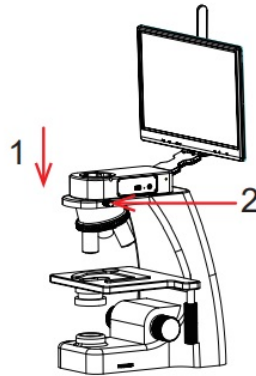

Figure 2
- 1) Snap the smart embedded display camera to the objective end of the microscope, oriented as in Figure 2;